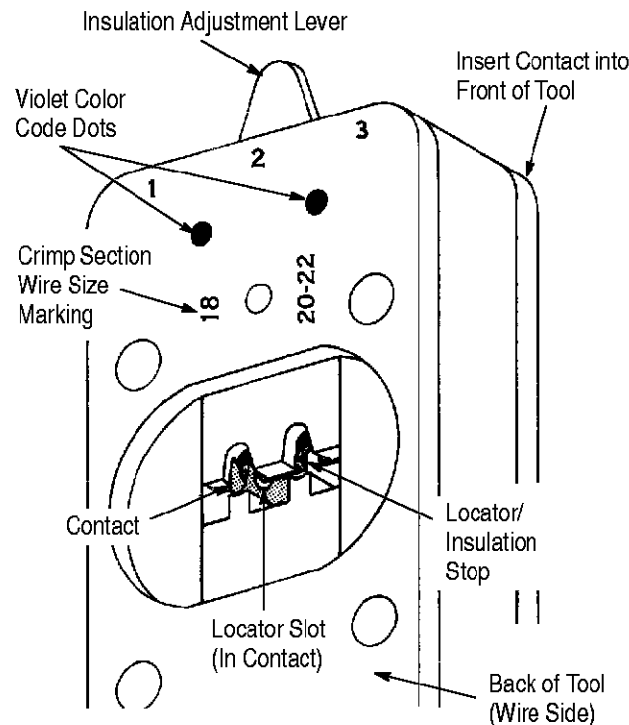

Figure 3
1. Hold tool so that the BACK (wire side) is facing you. See Figure 3.
4. Position the contact in the crimpers so that the locator enters the locator slot. See Figure 3.